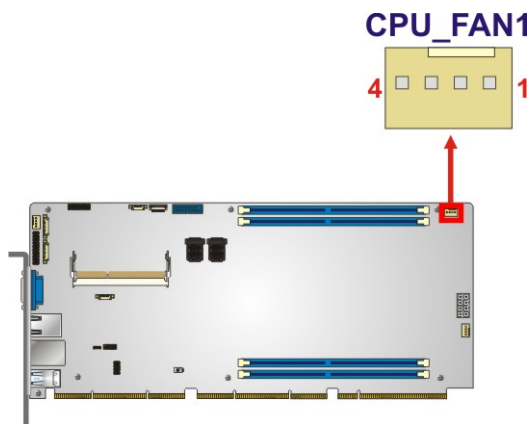

Figure 3-6: CPU Fan Connector Location
- CN Location:** See Figure 3-6